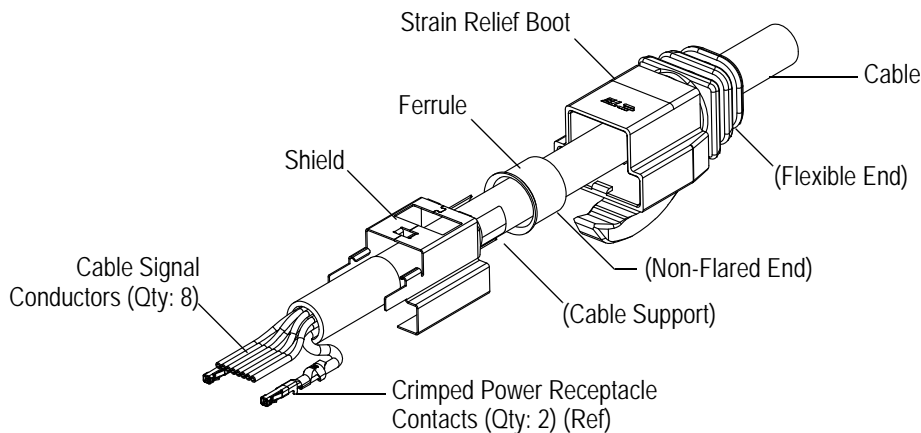

Figure 4
2. The strain relief boot, ferrule, and plug connector shield must be installed onto the cable in the orientation shown in Figure 4.